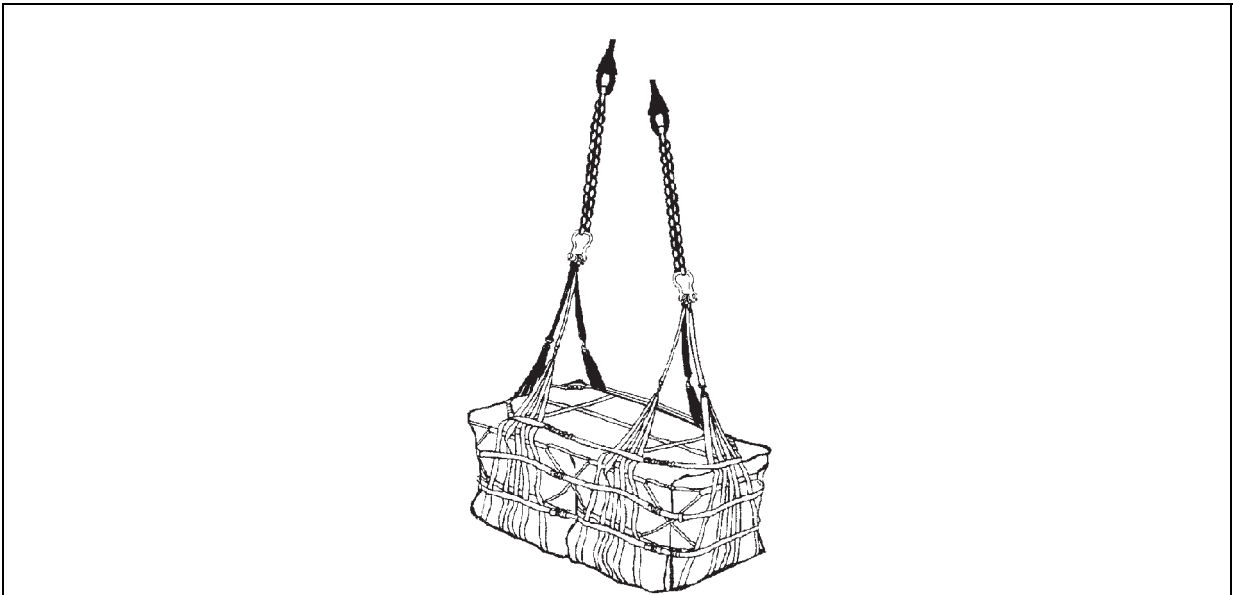
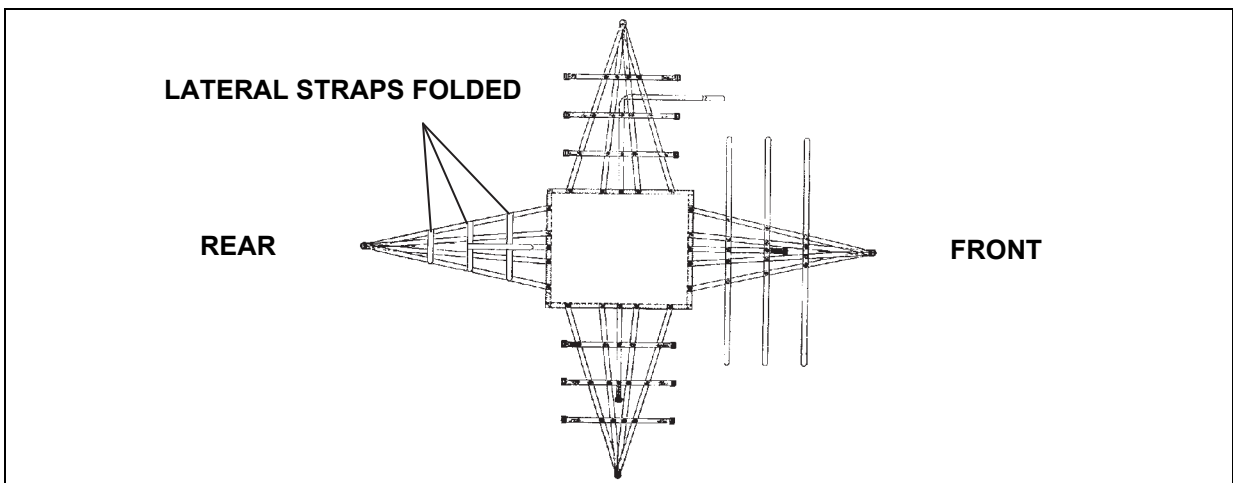

Figure 8-17. Stretch A-22 Cargo Bag
Figure 8-18. First A-22 Sling Assembly Positioned
8-4. The stretch A-22 cargo bag is two adjustable cotton duck/nylon cloth and nylon webbing containers consisting of two sling assemblies, two covers, and six suspension webs (figure 8-17). The bag is used to deliver loads that are longer than the standard A-22 load but shorter than a double A-22. The cover is optional. The stretch A-22 has a weight capacity of 900 - 2,200 pounds. Inspect the container for serviceability in accordance with table 2-1, Preventive Maintenance Checks and Services, in TM 10-1670-298-20&P. The best way to learn about this carrying device is to rig and derig it several times. The following steps and figures 8-18 through 8-22 explain how to rig a double A-22 cargo bag.
- Fold and place all lateral straps on top of the rear support web (figure 8-18).